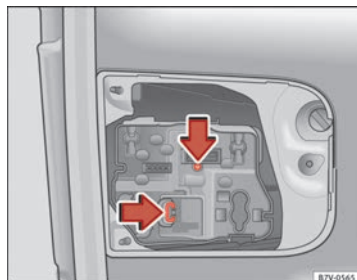

Fig. 212 On the rear lid:
5. Press on the attachment tabs in the direction of the arrow ⇒ Fig. 212 and pull out the lamp holder.